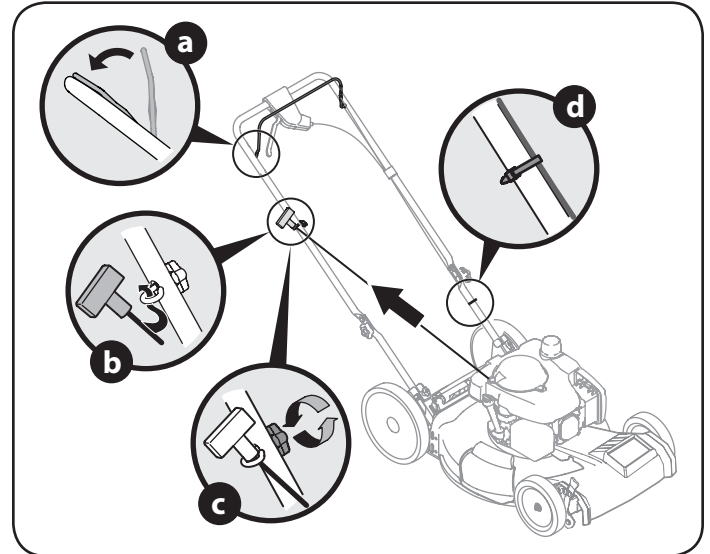

Figure 6
4. The rope guide is attached to the right side of the upper handle. Loosen the wing knob which secures the rope guide. Refer to Figure 6.
- Slowly pull starter rope handle from engine and slip starter rope into the rope guide. See Figure 6.
- Use cable ties provided to secure blade control and drive cables to lower handle as shown in Figure 6.